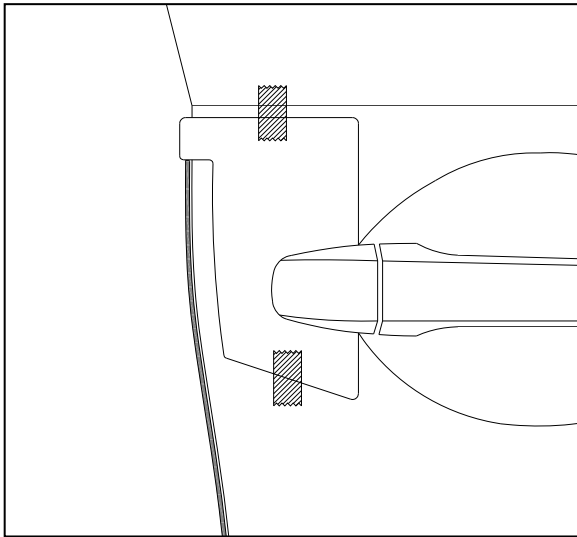

Fig. 1-10
- (l) Align top edge of DEG (labeled Front Passenger) with lower edge of template alignment notch as shown. (Fig 1-10).